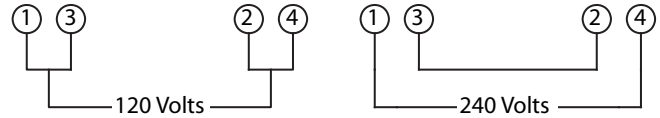

Figure 4 – Wiring Schematic for Motor
Refer to Figure 4.
- To operate drill press at 240 volts, rewire motor as shown in Figure 4 and replace line cord plug with a 240 volt, 15A, 3-prong plug. If motor label has a different wiring configuration, use the motor label diagram to rewire motor.